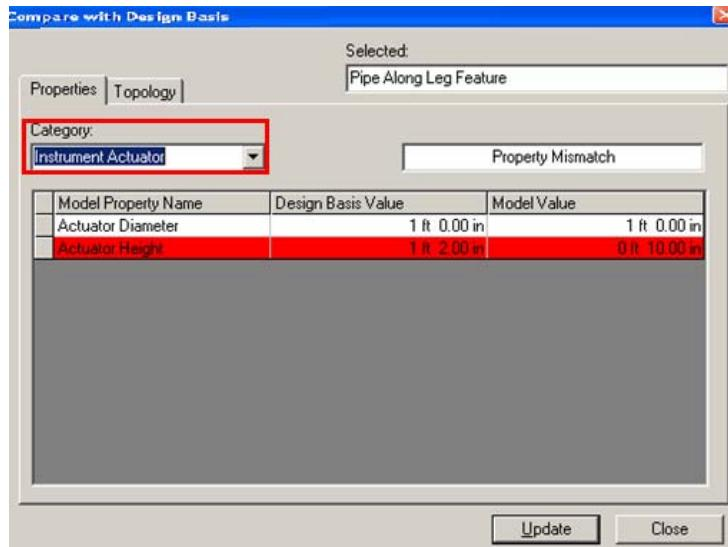

Figure 75: FV-311 Compare with Design Basis Dialog Box
7. Select the **Instrument Actuator** option in the **Category** drop-down list in the **Compare with Design Basis** dialog box. The **Actuator Height** row is highlighted in red, as shown in Figure 75. This indicates that the actuator dimension property of the instrument does not match the design basis.